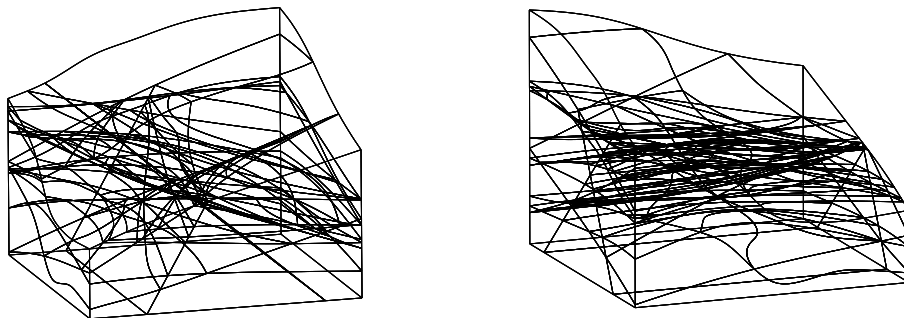

Fig.1 The example of code running.
- (1) Download all files and place them together in a folder.
- (2) There are two *vfproj* files: *B3dc_sep_Cur.vfproj* and *B3dcDraw_Cur.vfproj*. The former is used for analysis and the latter for plotting. Open them using Visual Studio 2010.
- (3) First, run *B3dc_sep_Cur.vfproj*. This project includes *B3DC_sep_Cur.for*, *Trace_cur.for*, and *Cal_Geometry.for*, as well as *DelaunaryDLL.lib*, *DelaunaryDLL.dll*. These files will be loaded automatically when opening this project. Two file names of input data files, *6mian12.dat*, and *CurSufInp56.txt*, are put in *Inpt_B3DC.DAT*. When running, the program will load *Inpt_B3DC.DAT* and then load the input data. The meanings of the input data in these files are labeled briefly in the files, as shown in Appendix 1, 2, and 3.
- (4) Then, run *B3dcDraw_Cur.vfproj*. This project includes *B3DCdraw_Cur.for*. Its corresponding input data file is *Inpt_B3DC_Draw.DAT*.
- (5) Finally, a file named *BLKCUT3D.DXF* is generated. You can open it using AUTOCAD, as shown in Fig.1. It is exactly Fig. 8 in the article. If the input data are changed, different analysis results will be obtained. Besides, the analysis results are presented in *B3dcDATA.dat* and *B3dcVol.dat*.